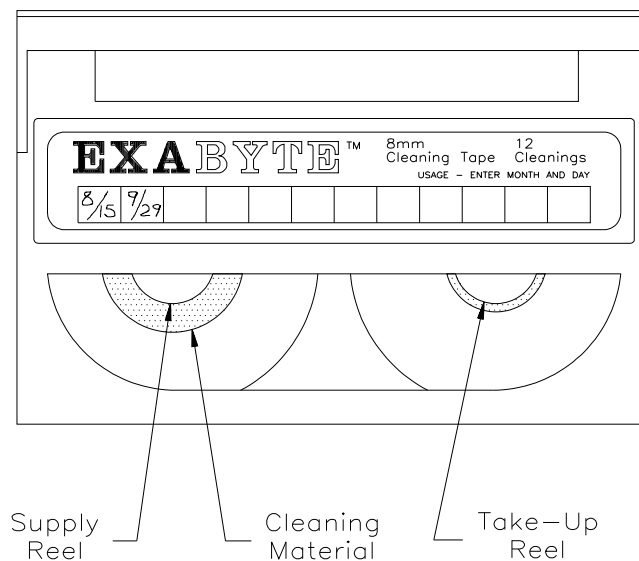

Figure 2-1 Cleaning cartridge with label showing cleaning cycles remaining
2. Check the usage record on the label of the cleaning cartridge to make sure that there is at least one cleaning cycle remaining (see Figure 2-1). If there are no cleaning cycles remaining, discard the cleaning cartridge and use a new one.
5. If the cleaning cycle was successful, record the date the cleaning was performed on the cleaning cartridge label (as shown in Figure 2-1). Store the cleaning cartridge for future use if it still has cycles remaining. Or, discard it if no more cleaning cycles remain.